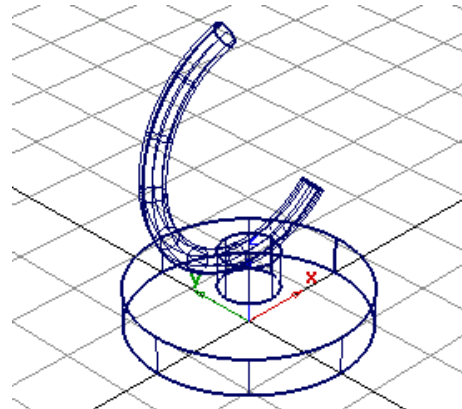

Figure 2-106 Model after rotating the ring
6. Enter **90, 45, 0** in the promptline and press ENTER; the ring is rotated about the X and Y axes, as shown in Figure 2-106.